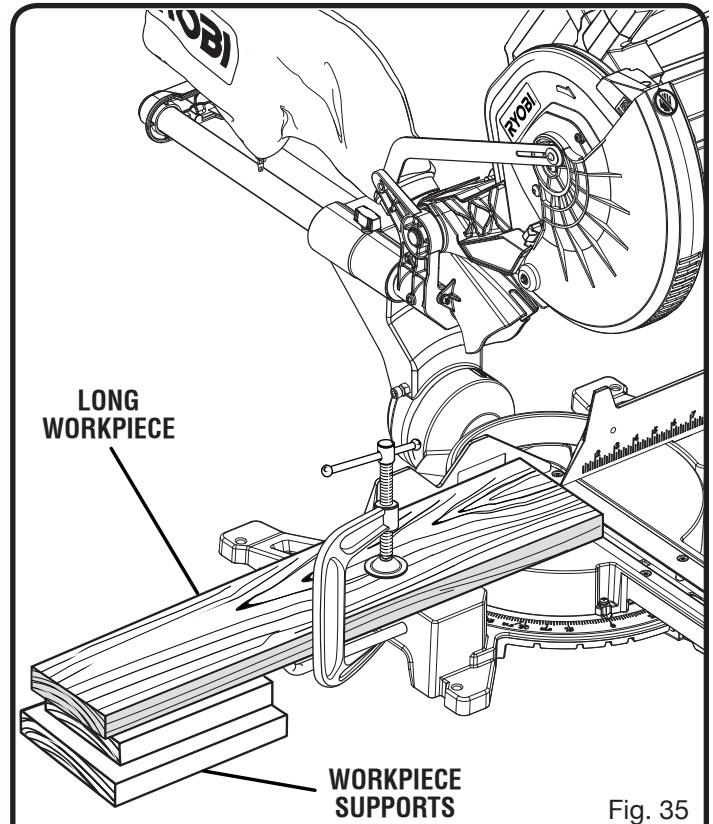

Fig. 35
- When cutting long pieces of lumber or molding, support the opposite end of the stock with a roller stand or with a work surface level with the saw table. See Figure 35.
- When cutting long pieces of lumber or molding, support the opposite end of the stock with a roller stand or with a work surface level with the saw table. *See Figure 35.*
See Figure 35.